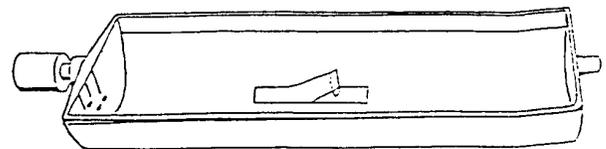

Figure 4
- C.) Cut the can retainer at the mark. (See figure 4 below.)
- C.) Reverse bend the can retainer at the mark. (See figure 4 above.)